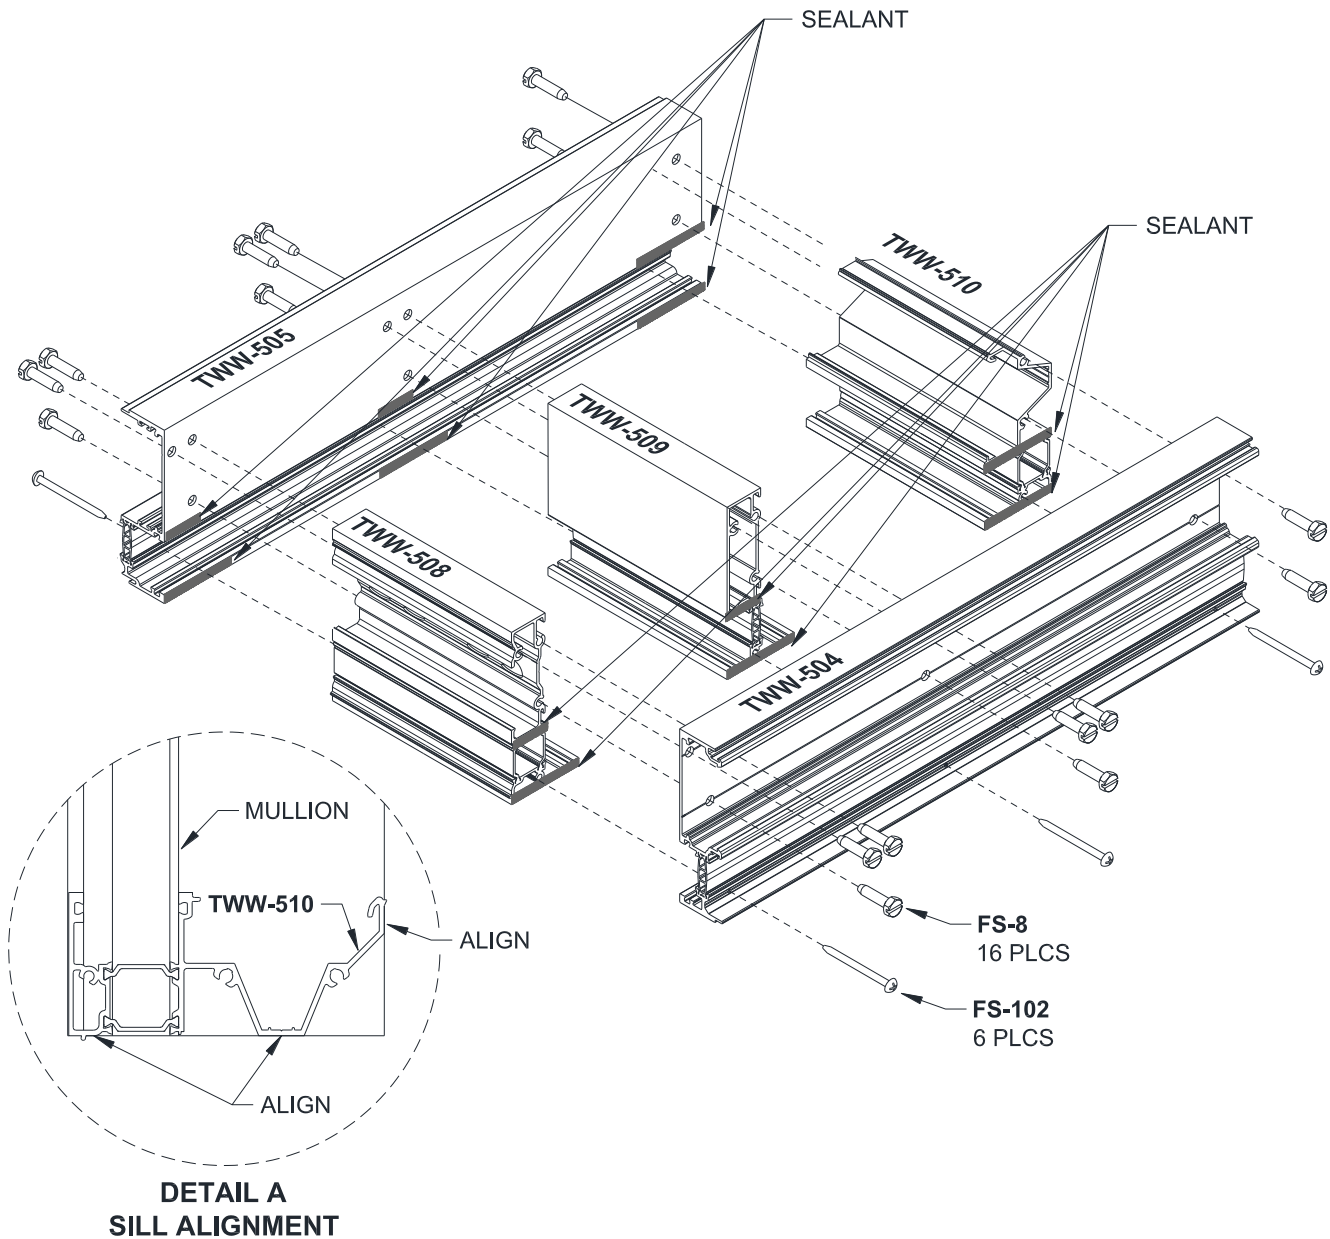

Figure 33: Pre-Glazed Captured Assembly
- 12.2.6 To ensure a proper fit into the Sill Receptor, align Sill to Vertical at the interior edge and the bottom, as shown in *Figure 33, Detail A*.
- 12.2.7 Attach Horizontals to Verticals using **FS-8** fasteners and **FS-102** fasteners, referencing *Figure 33*.